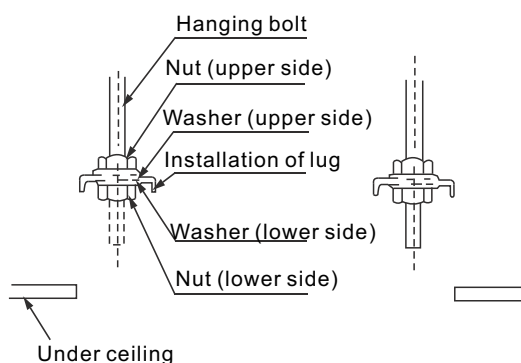

Figure 3.8
1) Adjust the location of the nut, and determine the space between the washer (lower side) and the ceiling according to the actual construction situation. Refer to Figure 3.8.